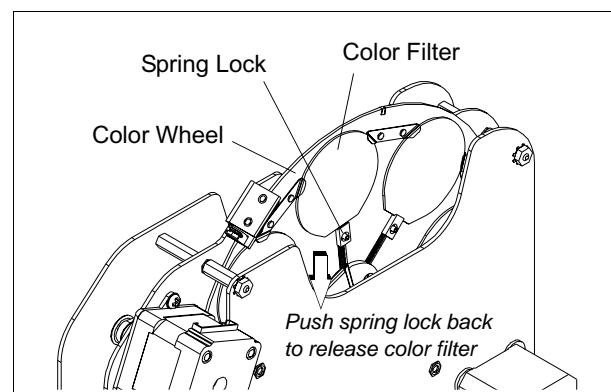

Figure 2-5: Color Filter Replacement
Step 2. Remove top head cover by loosening four 1/4-turn screws as shown in Figure 2-5.